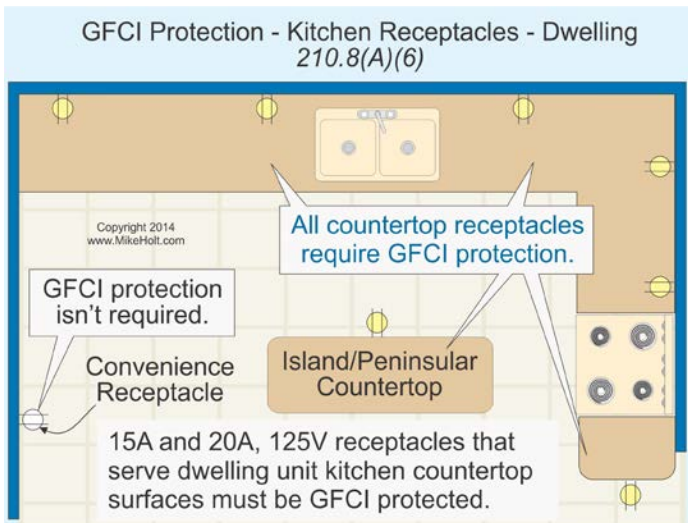

Figure 210-29
(6) Kitchen Countertop Surfaces. GFCI protection is required for all 15A and 20A, 125V receptacles that serve countertop surfaces in a dwelling unit. Figure 210-29